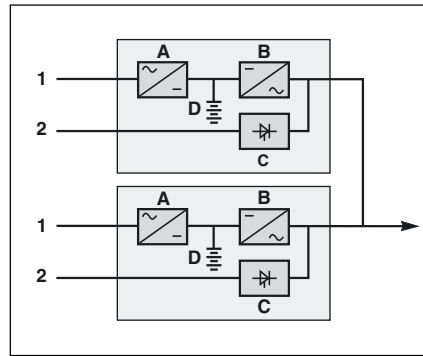

Fig. 5
See figure 5 showing two parallel-connected (redundant) UPS units. A static bypass (C) does not exist in parallel-connected frequency-converter